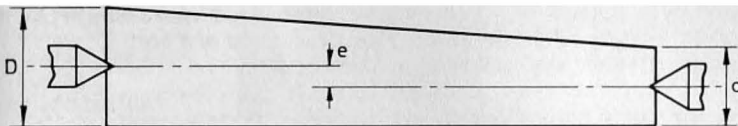

Fig. 5 Effect of offset tailstock centre. The work is round, but taper, so that $D = d + 2e$.
(3) *Centre Alignment.* This is a matter for the tailstock, but I am going to deal with it nevertheless. When handrest turning it does not matter very much if the head- and tailstock centres are not truly aligned to the axis of the bed, but when the tools are held rigidly in a slide rest which is guided by the bed, then it is imperative that they be true. See Fig. 5. If the two centres are not in line in the horizontal plane the effect is to turn the work taper, the taper on the diameter being twice the offset of the two centres. We can make use of this when we want to turn a tapered workpiece, of which more later, but it is otherwise a nuisance. I shall deal later with the methods of setting up a lathe to turn truly, (See Chap. 9).